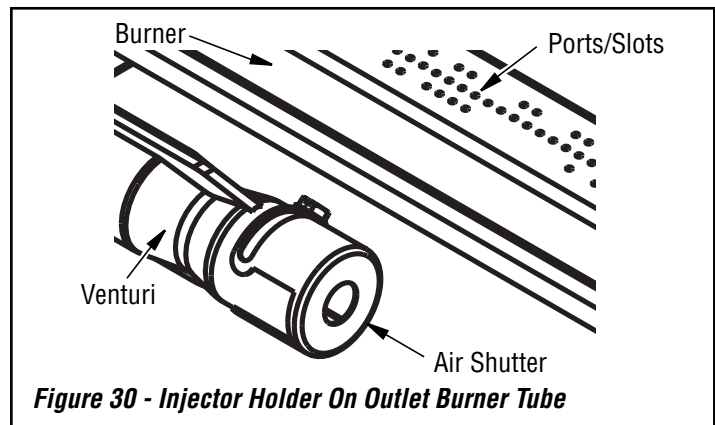

Figure 30 - Injector Holder On Outlet Burner Tube
2. Inspect burner, air shutter and orifice for dust and dirt (*see Figure 30*).